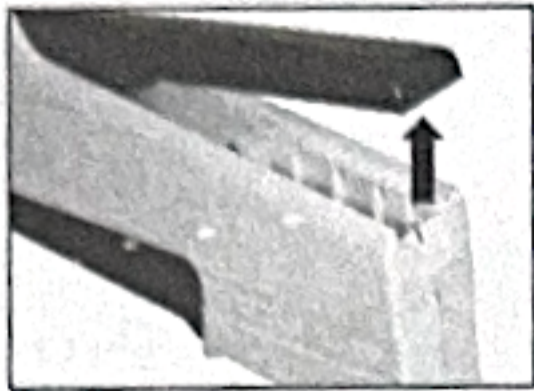

Figure 1
1. Lift handle cover located at the top of the handle (figure 1).
1. Remove labeling tape from labeler by opening handle cover at the top of the handle (figure 1)
2. Load vinyl labeling tape into labeler by opening handle cover at the top of the handle (figure 1).